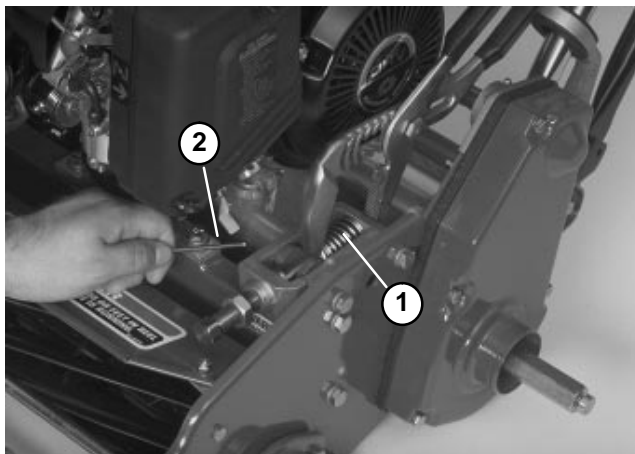

Figure 22
Use caution when removing the bedbar. Adjusting screw springs (Fig. 22) are under tension and could release suddenly.
3. Compress spring with a pair of channel lock pliers. Insert a pin to hold the spring in position (Fig. 22).